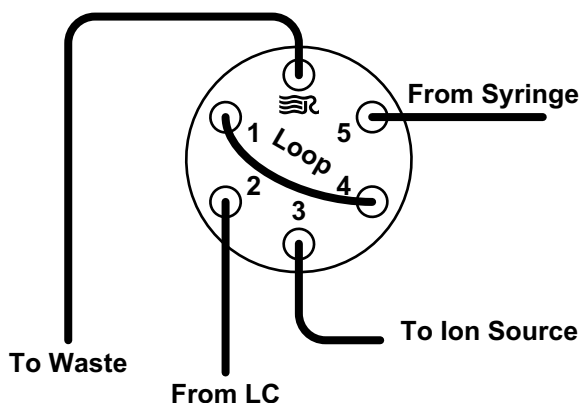

Figure 7-3. Divert/inject valve, showing plumbing for auto loop injection
- b. Connect the other end of the tubing fitted with a nut and a ferrule to port 5 of the divert/inject valve. See Figure 7-3.
- b. Connect an appropriate length of tubing fitted with a nut and a ferrule to port 3 of the divert/inject valve. (Figure 7-3)